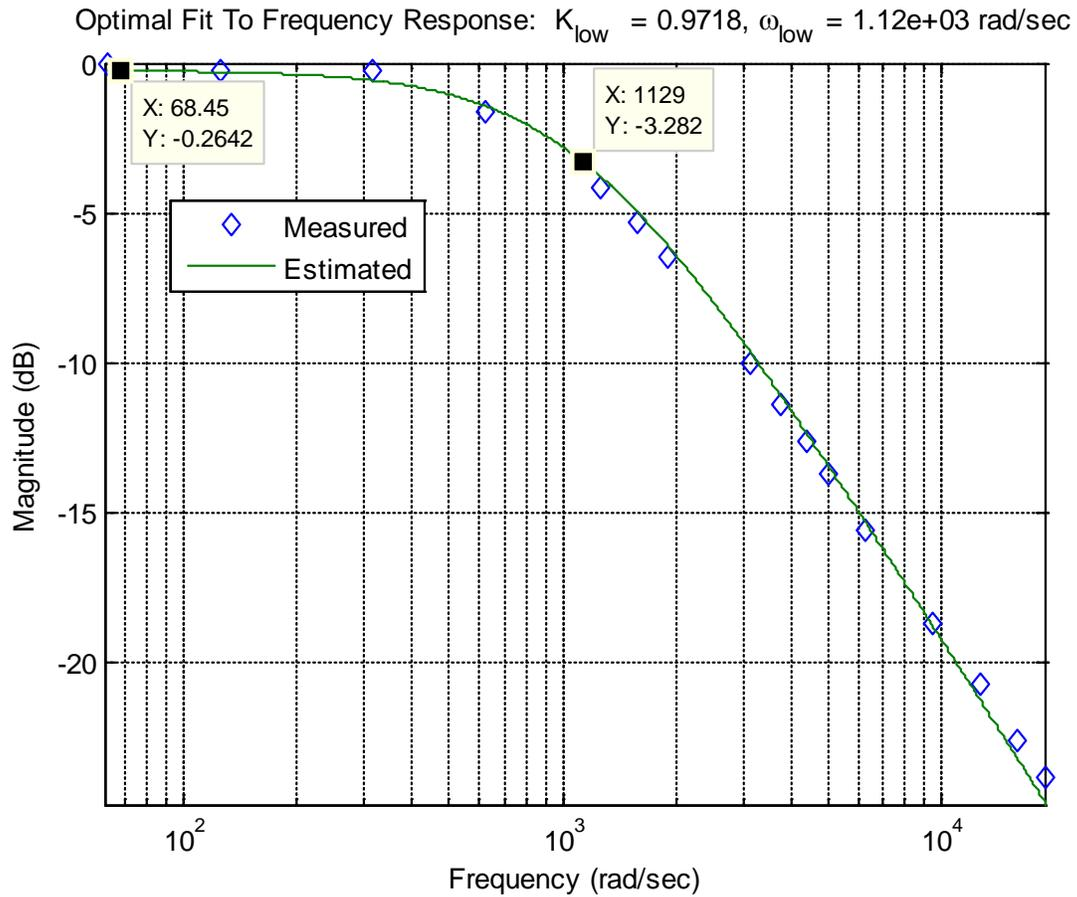

Figure 3. The lowpass filter with a bandwidth of approximately 1130 rad/sec (180 Hz).
c) Now we will fit the data to our model using the program **model_low.m**. The arguments to this file are the data array from part b, the estimated amplitude of the gain, and the estimated value of the cutoff frequency. In the Matlab command window type **model_low(data, 0.3, 500*2*pi)**; You should get results similar to that shown in Figure 3. Click on the **Datatip** icon (just below Desktop) to identify points on the graph. Once you have identified the maximum value, you may have to use a right click and create a new data tip (it usually helps if you right click when you are on a current datatip). You can fine tune your datatip locations by using the cursor keys on your keyboard. Your data points should be from the peak value to a value 3 dB lower. Include this graph in your memo. Be sure your graph has two datatip points.